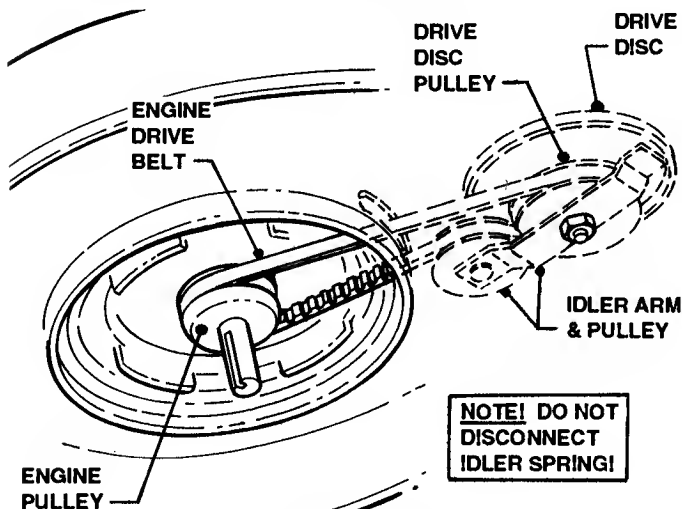

FIGURE 3.24
9. Install new belt around Drive Disc Pulley, then feed other end through deck opening and around Blade Pulley. See Figure 3.24.